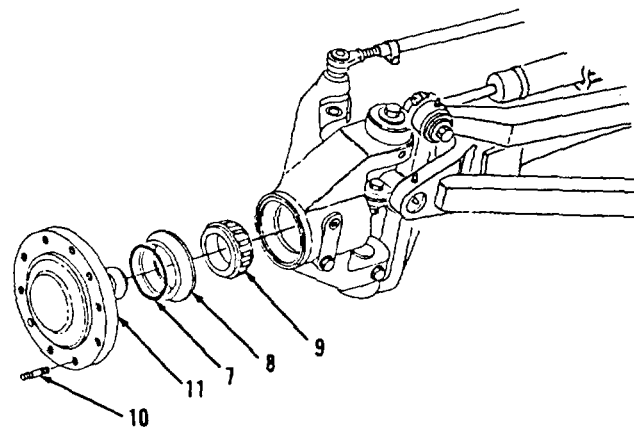
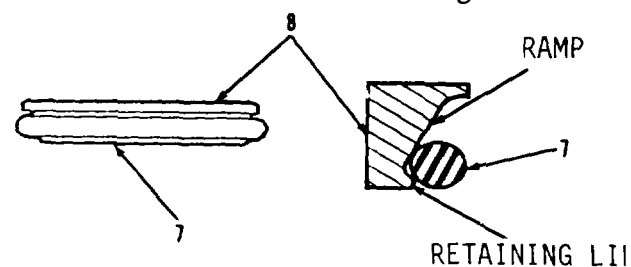

Figure 5-86.
Figure 5-92.
7. Tighten bolt (18) and nut (19).
8. Remove and separate ring (7) and seal (8) from spindle (11, Figure 5-86). Be careful not to damage.
9. Using suitable puller, remove bearing (9) from spindle (11).
10. Remove ten studs (10) and spindle (11).
9. Adjust seal (13) and ring (12), if necessary, using a seal installer.
10. Clean seal (13) mating surface with a lint free cloth. If any dirt particles remain on seal face, seal (13) will leak.
11. Lubricate mating surface of seal (13) with gear lubricant.
12. Inspect ring (12) for twists or bulges. Incorrect installation will result in seal (13) failure. If incorrect installation is obvious, repeat step 6.
13. Install ten studs (10) on spindle (11, Figure 5-86). Tighten ten studs (10) to 170 ft-lb torque.
14. Heat bearing (9) to 275 degrees F and install on spindle (11).
15. Install ring (7) on seal (8, Figure 5-92). Make sure ring (7) is not twisted and is properly seated on bottom of seal (8) ramp and against retaining lip.